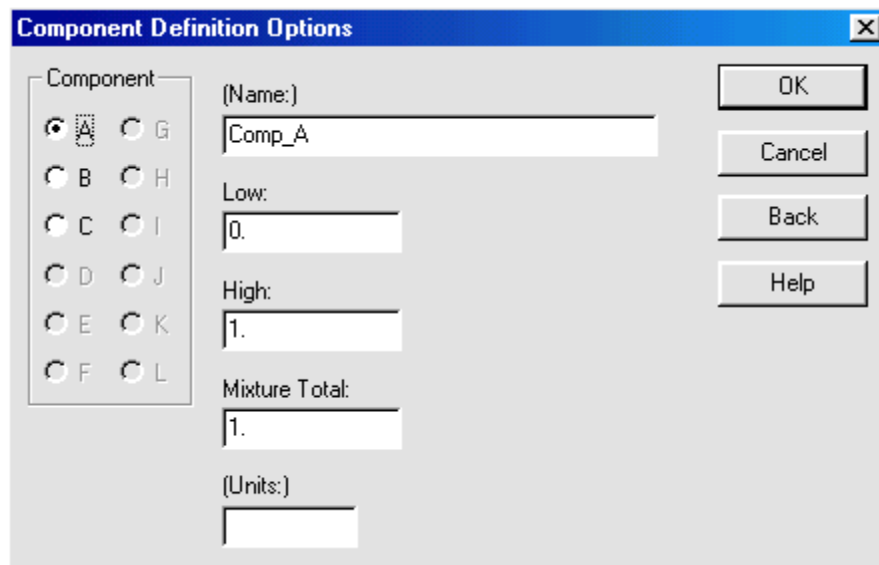

Figure 5-2. Component Definition Options Dialog Box
3. Click OK to display the Component Definition Options dialog box shown in Figure 5-2.